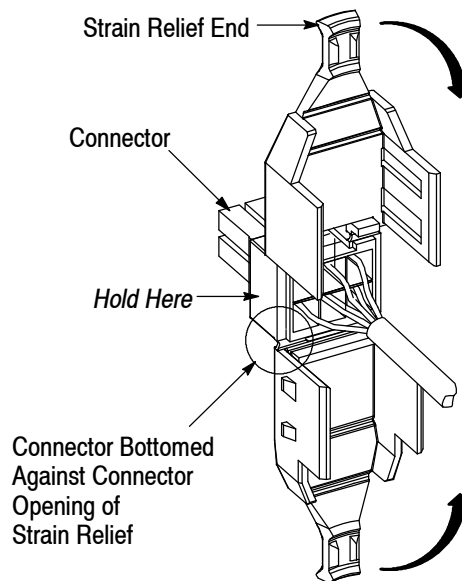

Figure 3
3. Insert the connector into the strain relief until the flange of the connector bottoms with the connector opening of the strain relief (the flange of the connector will prevent the connector from being over-inserted). The connector locking latch opening of the strain relief will accept the locking latch of the connector. See Figure 3.
4. While holding the center of the strain relief where the connector has been inserted, push the ends of the strain relief toward the wire until they meet at the wire. See Figure 3.